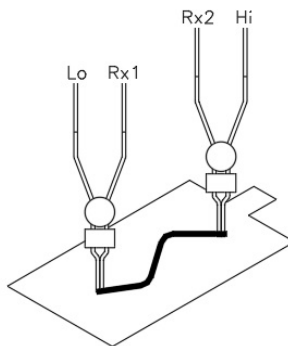

Fig. 4
4) Connect the 2 Kelvin clips as following Fig. 4 to measure the unknown resistance between two test points, such as PCB layout.